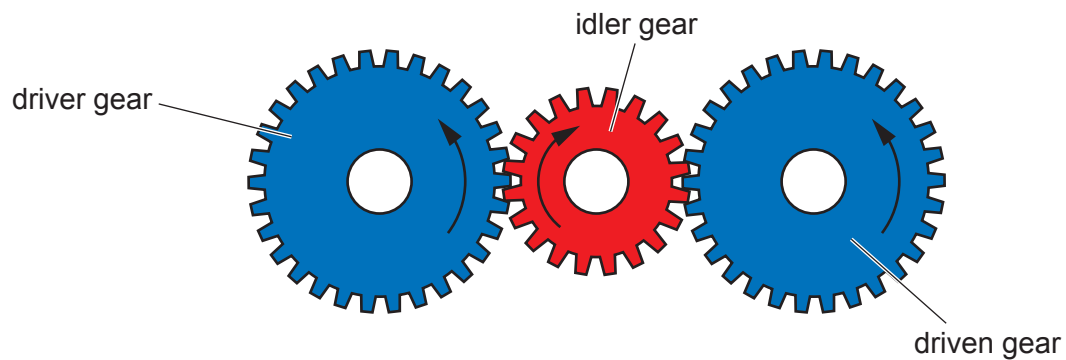

Fig. 10
- (ii) **Fig. 10** shows a different gear train.
Look at **Fig. 10** and describe the main function of an idler gear.